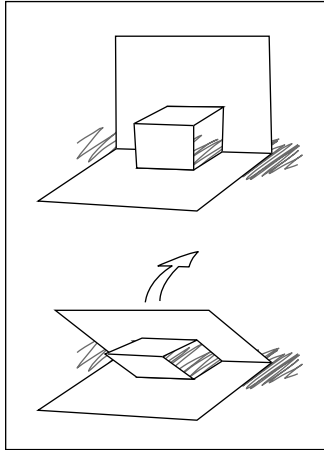

Figure 6-1:
- ✔ **It has two surfaces that are always lined up with each other.** Figure 6-1 shows an example. With a parallel pop-up, you essentially create a collapsible box, gluing the
The pop-up should now fold flat. Check your greeting card by opening it. The center should pop up as in Figure 6-1. If it doesn't, make sure you push in the center piece in as you close the greeting card.